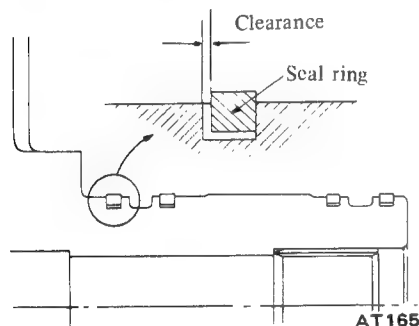

Fig. AT-97 Measuring clearance
- Clearance between seal ring and ring groove. See Figure AT-97.